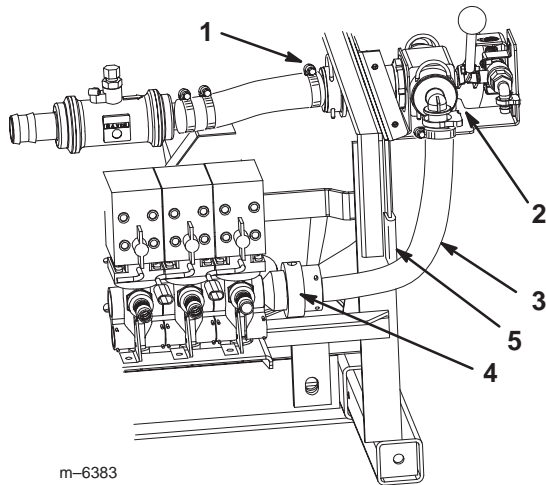

Figure 15
3. Connect the fitting you installed into the boom supply hose to the control valve assembly, securing it with the retainer you removed previously (Fig. 15).
8. Connect the fitting on the large hose on the control valve assembly to the fitting on the right side of the boom supply valves (Fig. 15).
9. Disconnect the large hose from the control valve and look inside the valve (Fig. 15). You should see an opening in the check ball curving up. If not, rotate the ball until the opening is fully visible and it curves up.
10. Connect the large hose to the control valve (Fig. 15).
11. Place the rubber trim piece over the frame edge to protect the hose (Fig. 15).